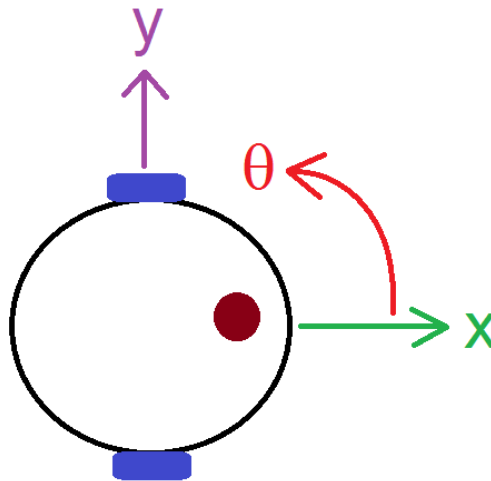

Figure 9: Robot Relative Reference Frame
5. The reference frame for the robot is shown in Figure 9, where the robot's start position is  $(x,y,\theta)$   $(0,0,0)$ . Note that the z axis is coming up out of the robot centered between the two wheels. The x axis is straight ahead and the y-axis is to the left. Positive turns are counterclockwise and negative turns are clockwise.